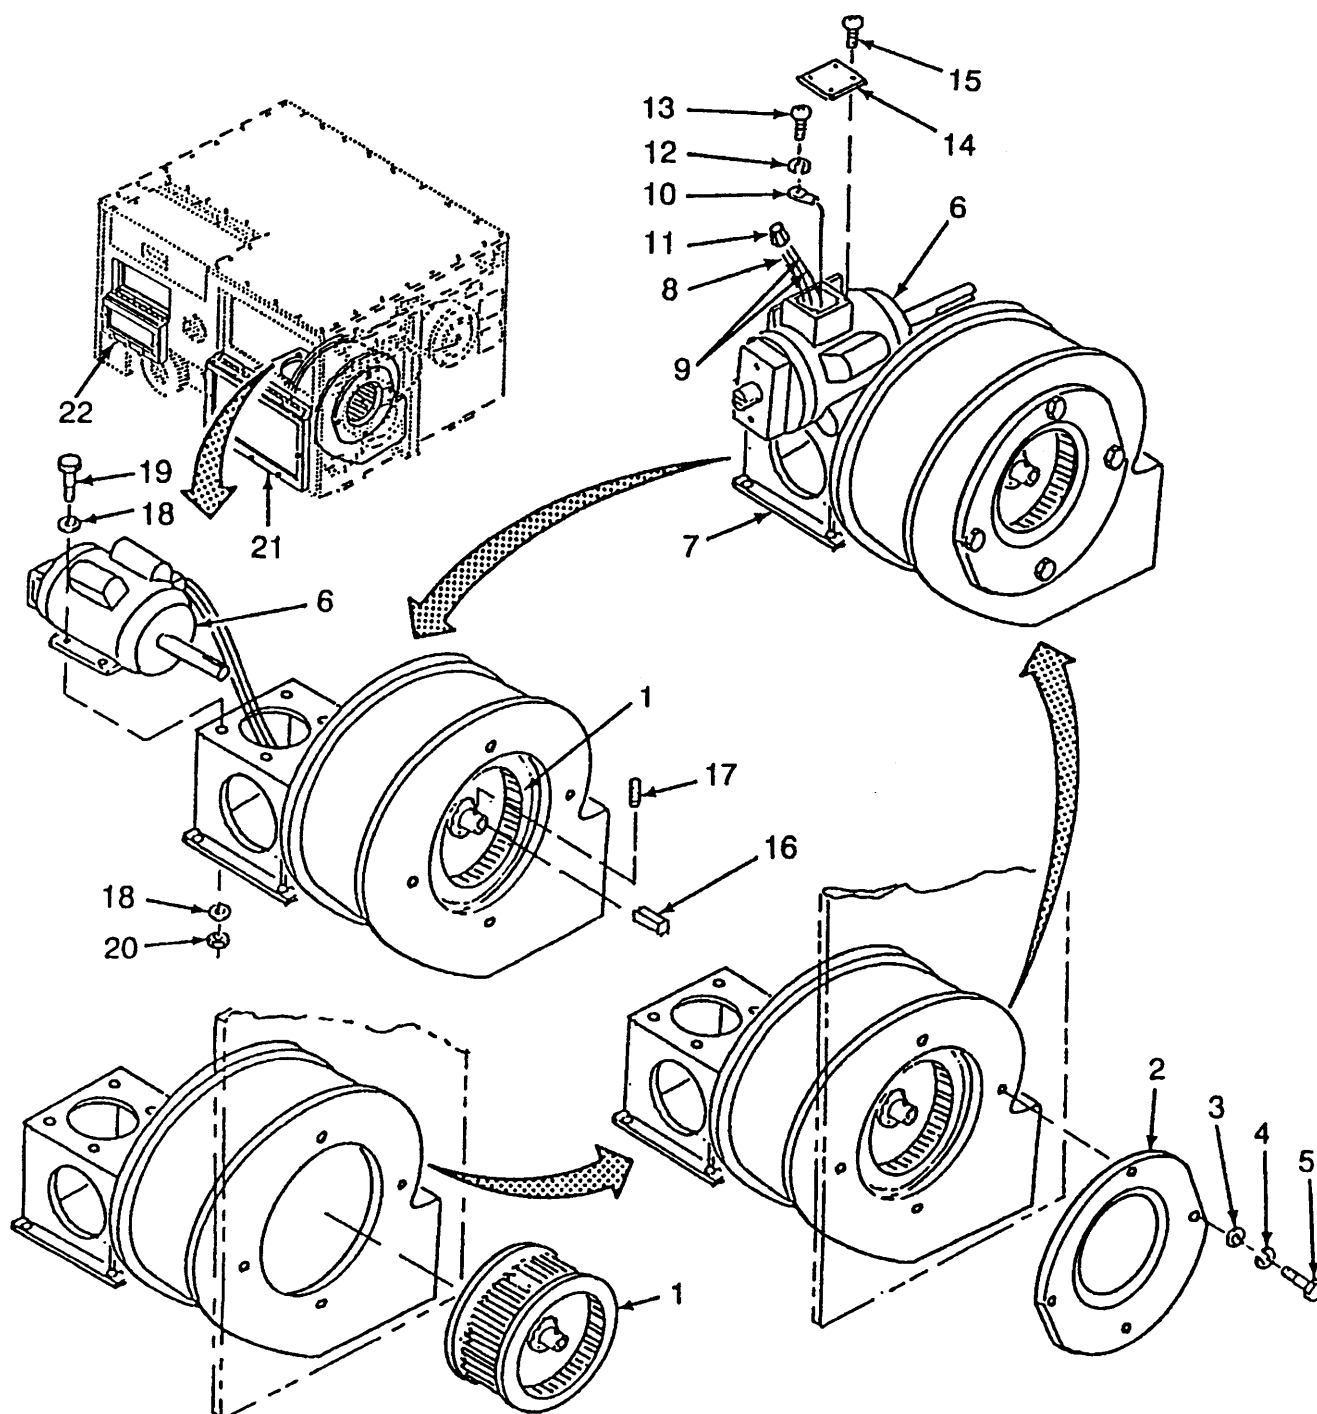

Figure 4-56. Circulating Motor and Fan Installation
**b. Installation (Refer to Figure 4-56)**
- (1) Install fan (1) through front of unit.
- (2) Install inlet cone (2), four flat washers (3), four lockwashers (4) and four screws (5).
- (3) Place motor (6) on its side with junction box facing up on base (7).
- (4) Feed wires (8) B1-TL, T5/TB1-8, (9) B1-T4, T8/TB1-3 and (10) B1-GRD/G1 through hole in bottom of junction box on side of motor (6).
- (5) Remove one wire nut (11) connecting wires T1 and T5. Twist wire (8) with T1 and T5 and install wire nut (11).
- (6) Remove the other wire nut (11) connecting wires T4 and T8. Twist wire (9) with T4 and T8 and install wire nut (11).
- (7) Install ground wire (10), lockwasher (12) and screw (13).
- (8) Gently push all wiring into junction box on motor (6).
- (9) Install cover (14) and two screws (15).
- (10) Turn motor (6) onto its base and slide onto fan (1).